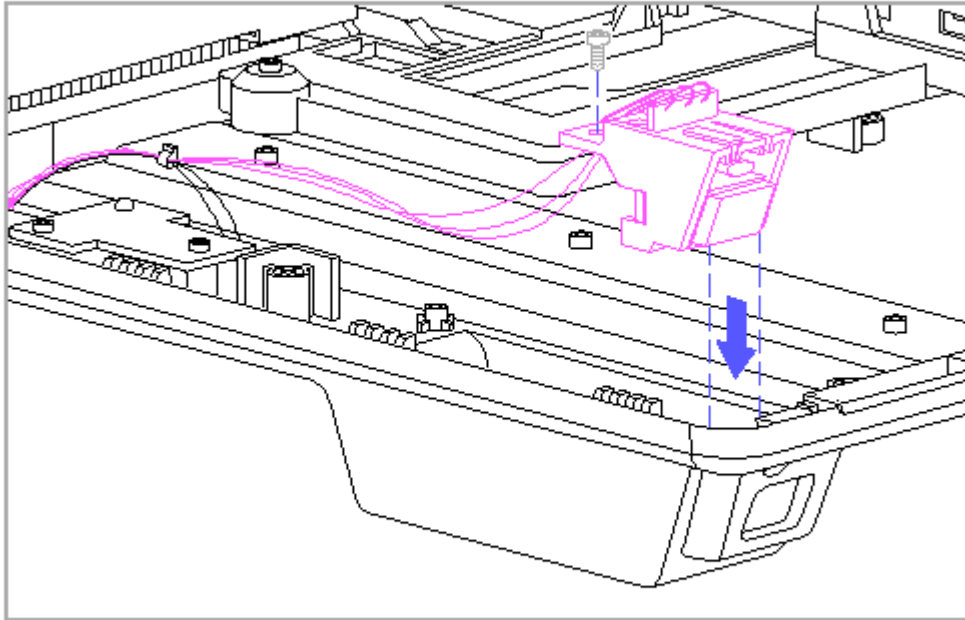

Figure 9-59. Replacing the Eject Switch and Screw
5. Replace the eject switch and screw (Figure 9-59).